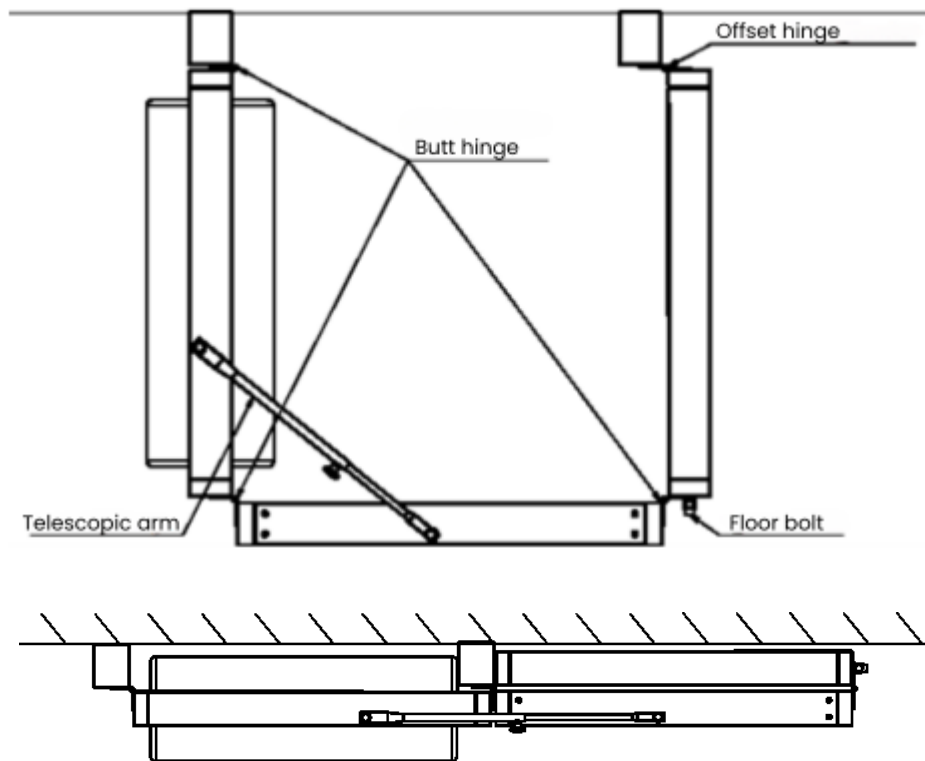
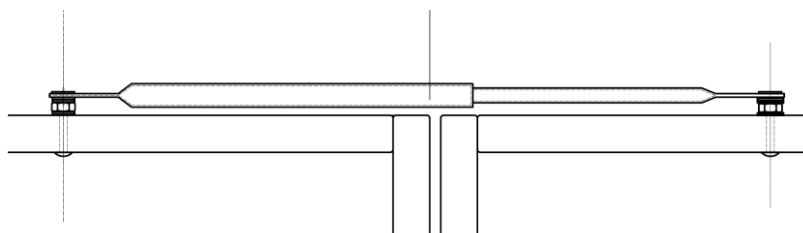

Figure 5: Position of the telescopic arm when the climbing frame is folded out and folded in
Figure 6: Telescopic arm attachment
All the connections described above are shown in figure 5.
In this next stage, the telescopic arm ⑭, including star grip screw ⑮, should be positioned across the corner between the first two sections from the left and screwed in place using the coach bolts ⑩ and sleeve nuts ⑤ as shown in figure 5. Use the hexagon nuts ⑪ and washers ⑨ to adjust the distance (see figure 6). The screws should be tightened to a point where the telescopic arm can still move, but no longer rattles.